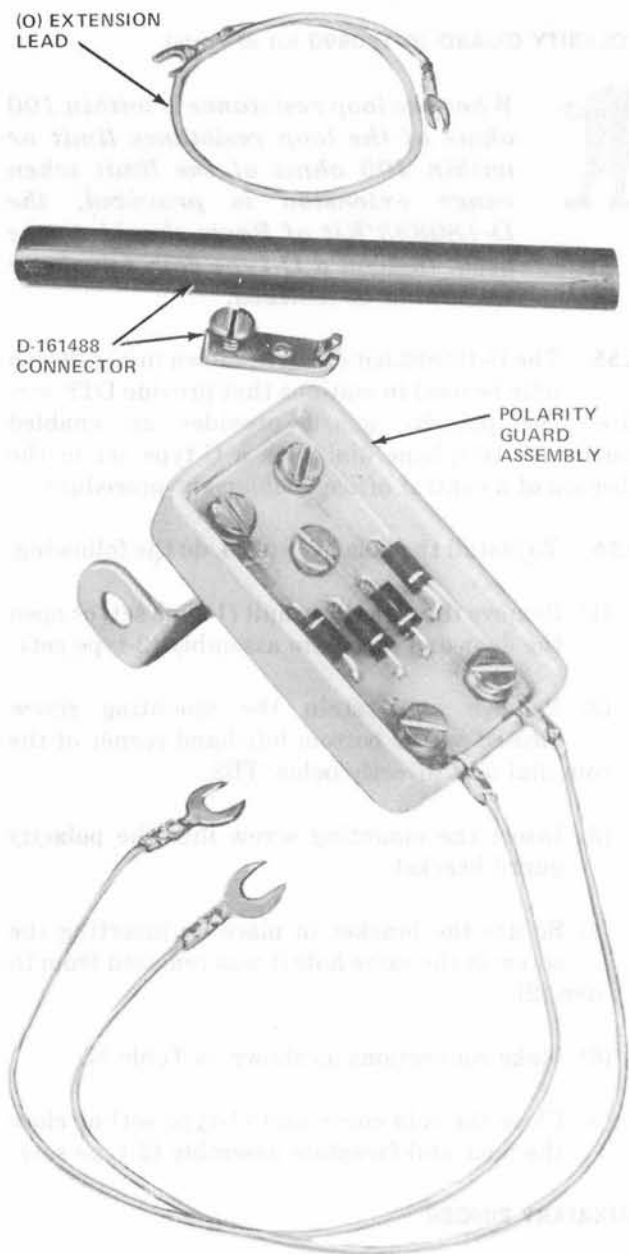

Fig. 36—D-180893 Kit of Parts (Polarity Guard)
3.55 The D-180893 Kit of Parts shown in Fig. 36 can only be used in stations that provide DTF service. The polarity guard provides an enabled touch-tone telephone dial with a C-type set in the absence of a central office enablement procedure.